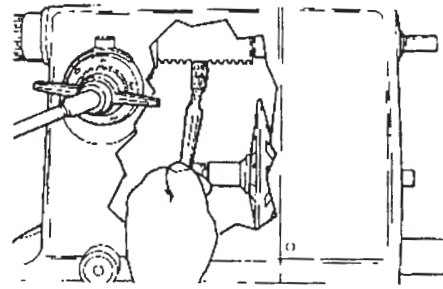

Figure D-1
4. With a small, stiff brush, reach in through the nameplate opening and brush off the teeth on the portion of the quill inside the headstock, as demonstrated in Figure D-1. Then extend the quill out from the headstock as far as it will go and brush off the outside teeth.